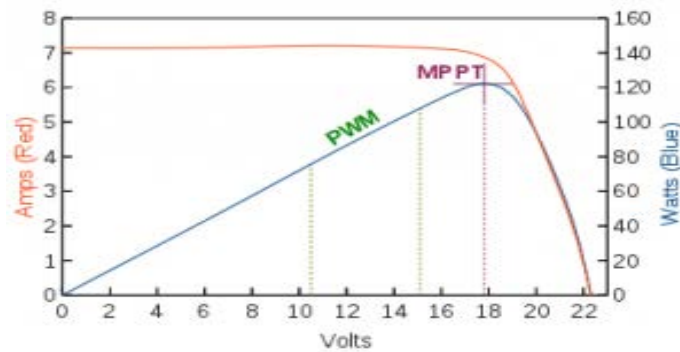

Figure 1: MPPT and PWM graph [1]
1. Figure 1: MPPT and PWM graph
The core function of the solar charge controller is the efficient transfer of power from a solar module to a battery or load. There are two different types of solar charge regulators, each with a different technology; maximum power point tracking (MPPT) and pulse width modulation (PWM). Their performance is very different from each other; for example, the MPPT solar charge controller is expensive compared to the PWM regulator. The MPPT regulator performs better than the PWM solar charge regulator. This can be seen in figure 1. The PWM charge regulator operates by making a direct connection from the solar panel to the battery, whereas the